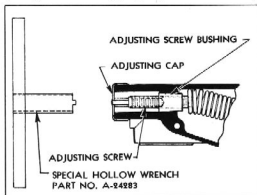

Fig. 18—Points of Governor Adjustment
In order to eliminate a surge or flat spot in engine operation, it is necessary to change the calibration of the governor spring tension by means of the adjusting screw bushing (Fig. 18). Unless absolutely
1. If the governor is too sensitive, or on the point of surging, remove seal. Remove adjusting cap by pulling straight out (do not unscrew from adjusting screw). Place the special hollow wrench, Handy governor part No. A-24283, Fig. 18, in the slots of the adjusting screw bushing. (This hollow wrench is obtainable from the King-Seely Corporation, Ann Arbor, Michigan.) Turn adjusting screw bushing clockwise $\frac{1}{4}$ turn. Replace adjusting cap and with it, turn adjusting screw clockwise one full turn. Repeat this adjustment until desired regulation is obtained.